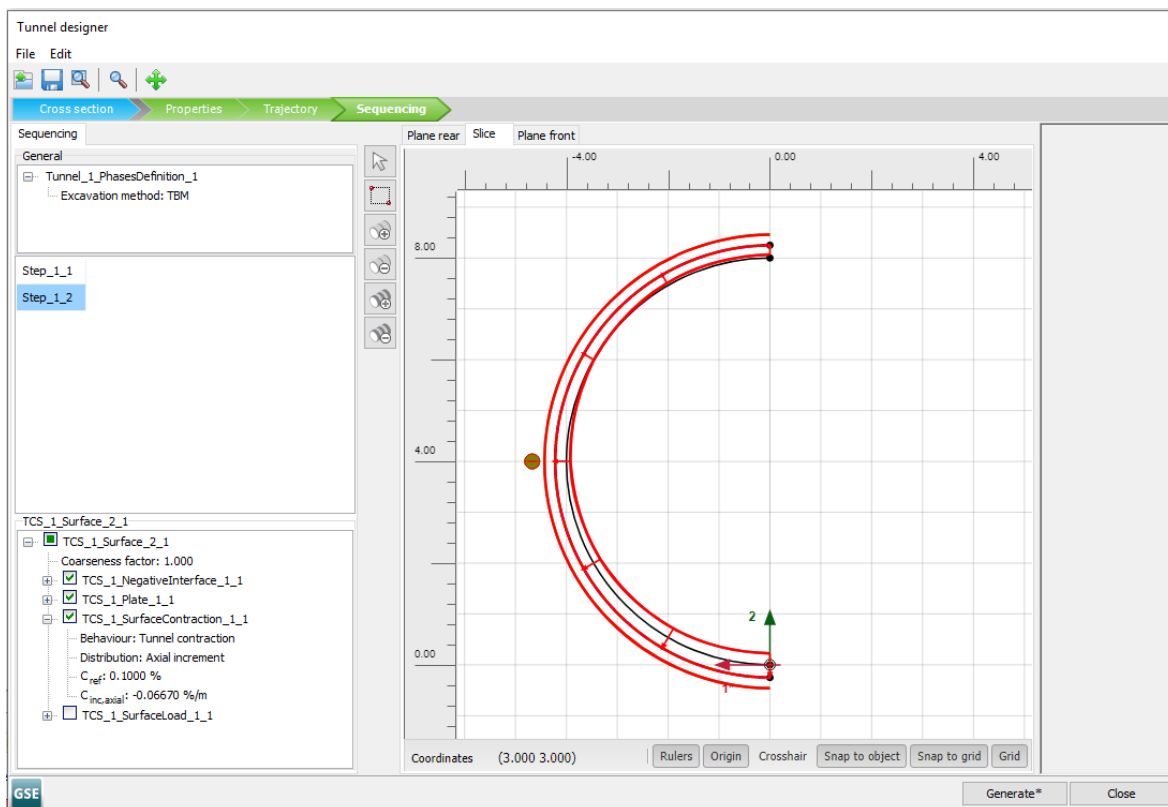

Figure 74: Slice tab Tunnel designer - <Step_1_2>Definition of Surface contraction
- Go to the **Slice** tab, select the outer surface and set $C_{ref} = 0.1\%$, see Figure 74 (on page 100).